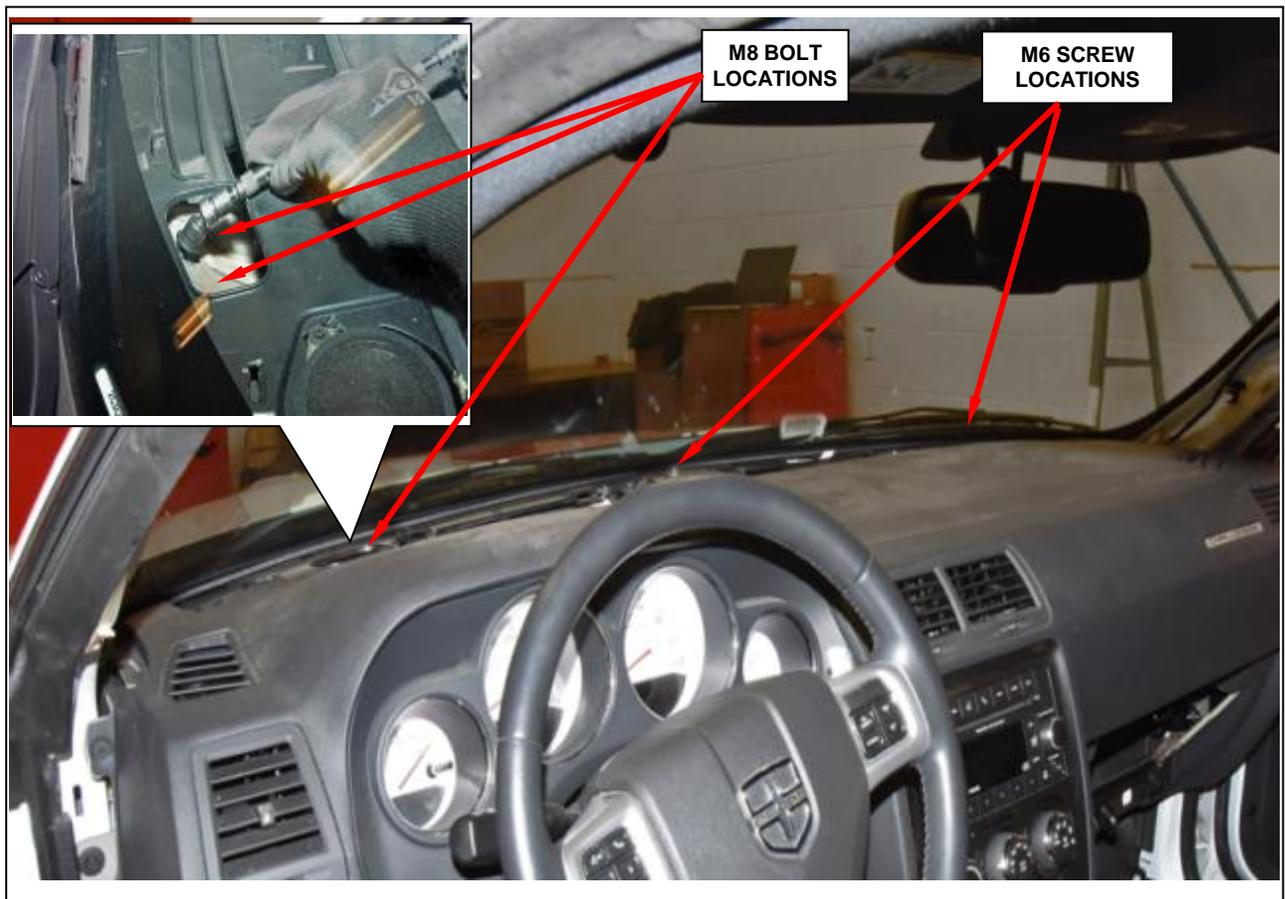

Figure 46 – Top Instrument Panel Fasteners
33. Remove the defroster grille to access the instrument panel top retaining bolts then remove and save the two M8 bolts and two M6 screws (Figure 46).